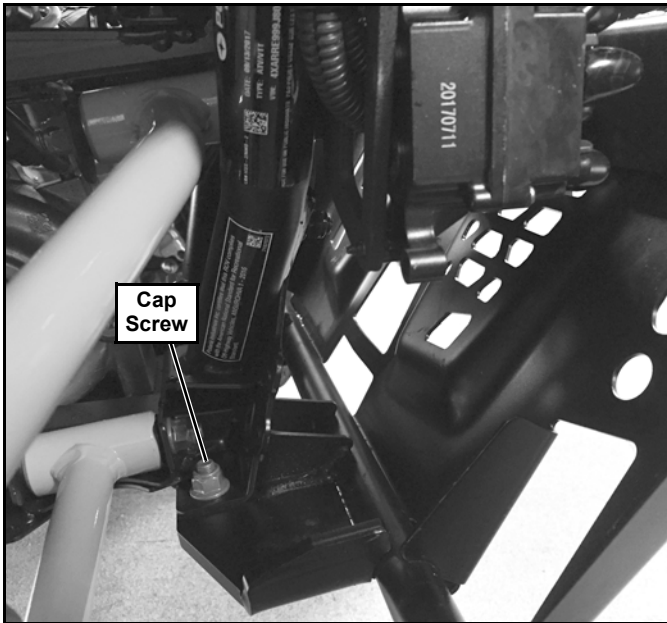

Figure 1
1. Remove (2) lower Cap Screws that hold the Bumper/Brush Guard to the frame (See Figure 1).